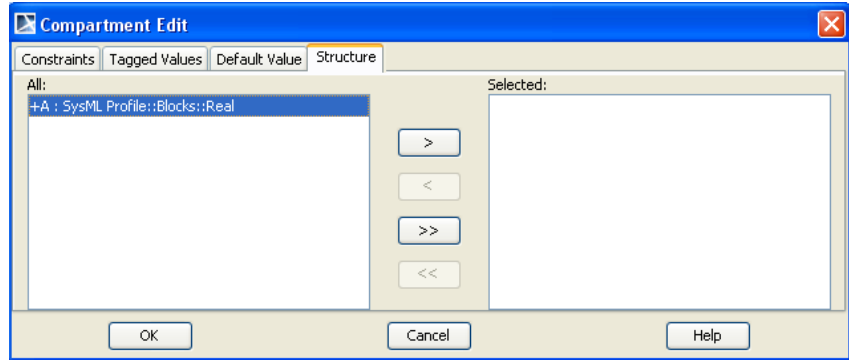

Figure 2.12 Edit Compartment window
- iii. Select A from the Edit Compartment window (Figure 2.12)